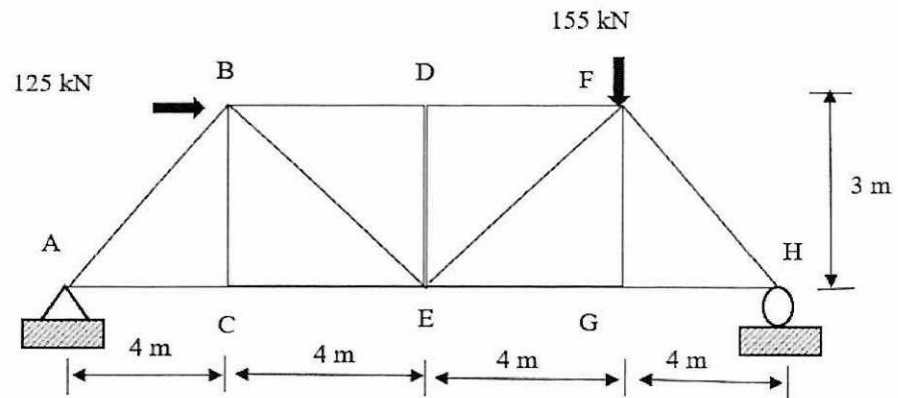

Figure Q4(b)
- (b) **Figure Q4(b)** shows a truss structure which supported by a pin at joint A and a roller at joint H. Vertical load of 155 kN and horizontal load 125 kN are applied at joint F and B respectively. Using Method of Sections, determine the following statements;